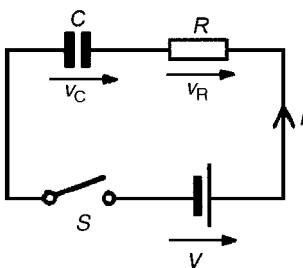

Figure 18.1
- (a) The circuit diagram for a series connected $C-R$ circuit is shown in Fig. 18.1 When switch S is closed then by Kirchhoff’s voltage law: